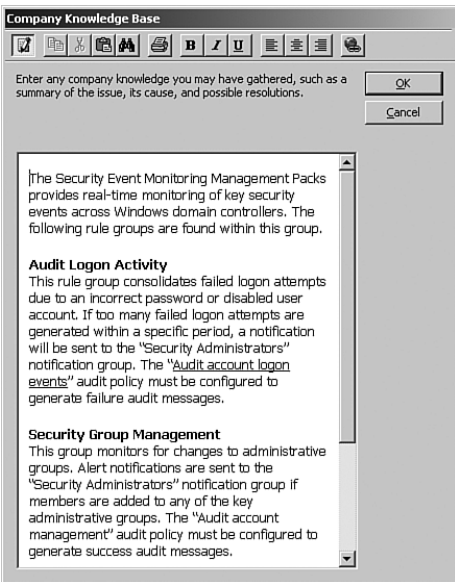

FIGURE 20.8 SecurityPack Knowledge Base.
3. On the Knowledge Base screen, click Edit and enter information to describe the function of the SecurityPack. Figure 20.8 shows sample content describing what the management pack does and some of the Windows Security auditing prerequisites.